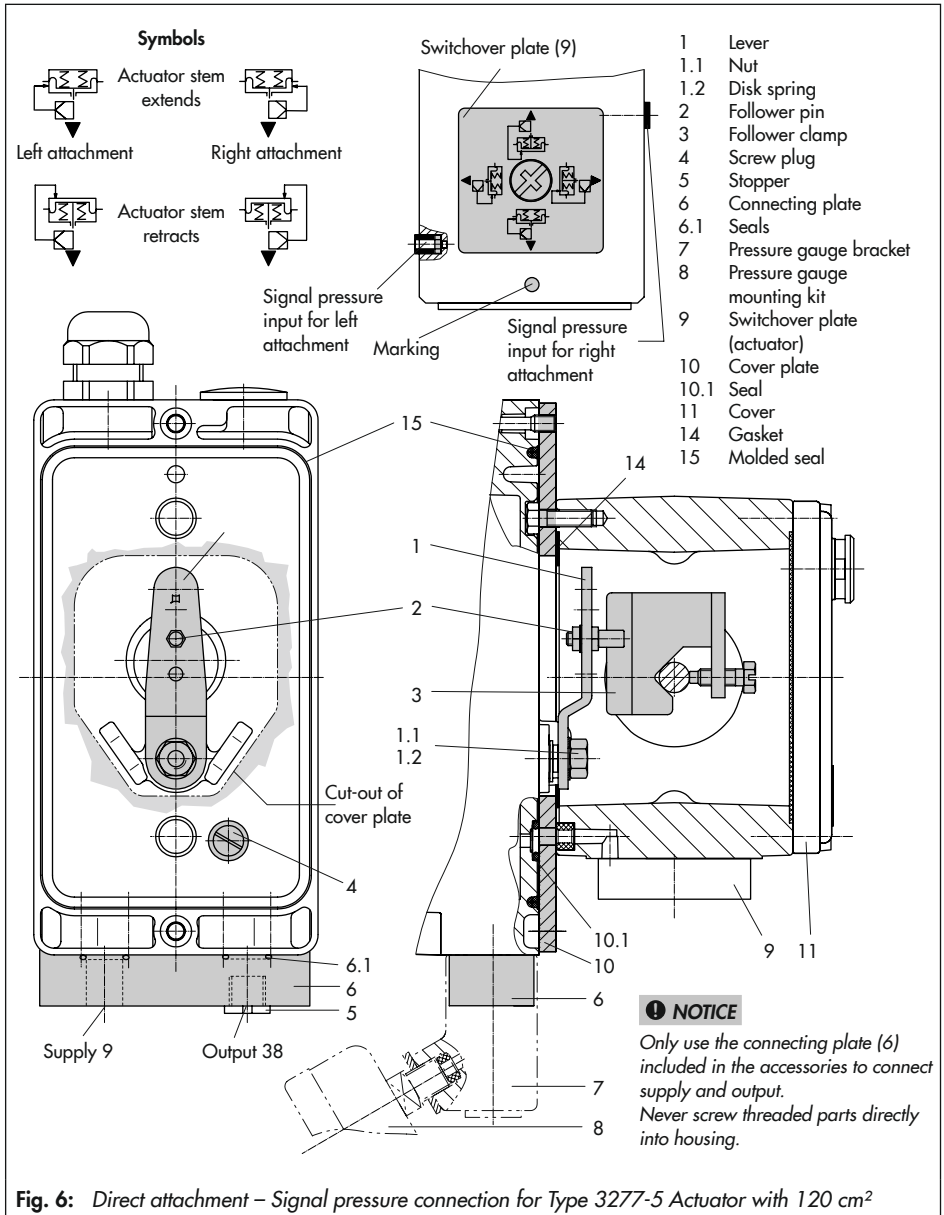

Fig. 6: Direct attachment – Signal pressure connection for Type 3277-5 Actuator with 120 cm²
Actuator with 120 cm² (see Fig. 6)
1. Mount connecting plate (6) or pressure gauge bracket (7) with pressure gauges on the positioner, making sure the two seals (6.1) are seated properly.
2. Remove screw plug (4) on the back of the positioner and seal the signal pressure output (38) on the connecting plate (6) or on the pressure gauge bracket (7) with the stopper (5) included in the accessories.
3. Place follower clamp (3) on the actuator stem, align it and screw tight so that the mounting screw is located in the groove of the actuator stem.
4. Mount cover plate (10) with narrow side of the cut-out (Fig. 6, on the left) pointing